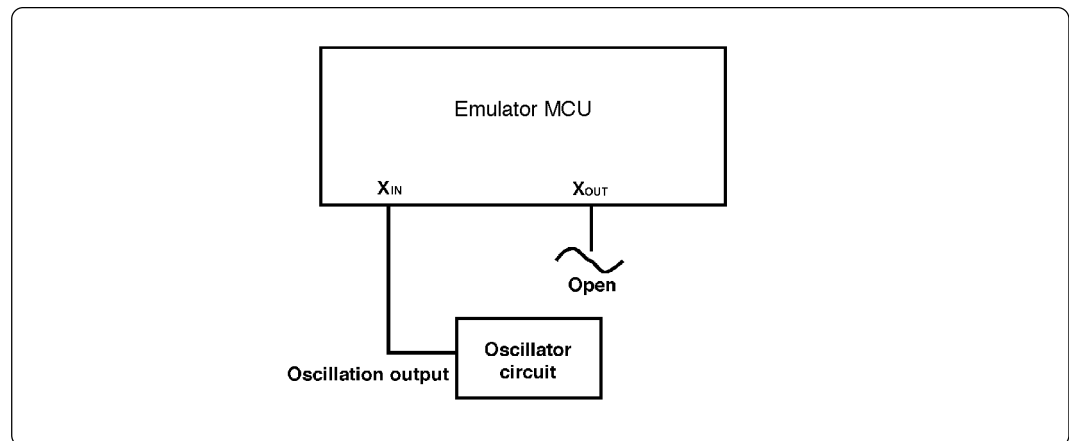

Figure 3.1 External oscillator circuit
- To operate the emulation pod with an external clock, construct the oscillator circuit as shown in Figure 3.1 in the target system and input the oscillator output at 50% duty (within the operating range of the evaluation MCU) into the  $X_{IN}$  pin. And the  $X_{OUT}$  pin should be open.